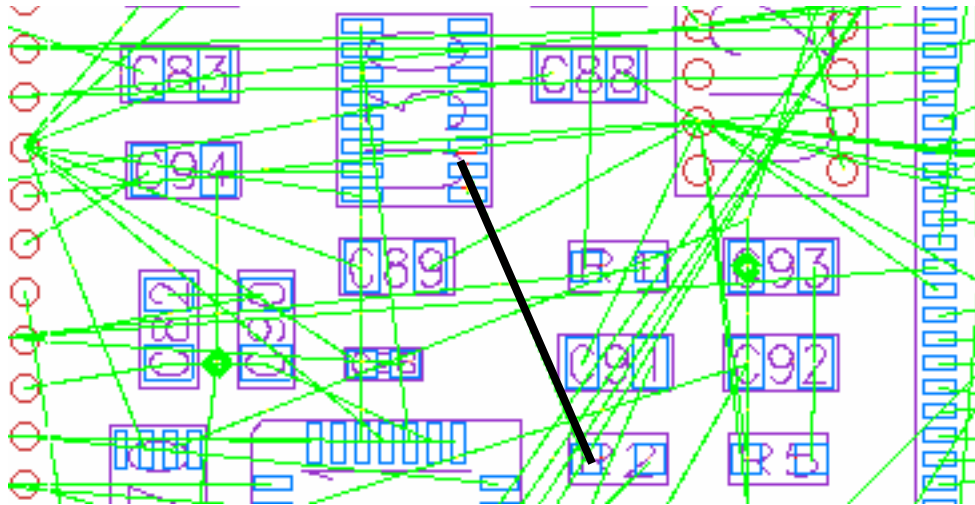

Figure 1-34. Guide to Route for Changing Layers
2. Click on the guide connecting the surface pad on component R2 to the surface pad on U30, as shown in Figure 1-34. Note in the upper-right corner of the screen that via040015 is set as the interactive routing via.